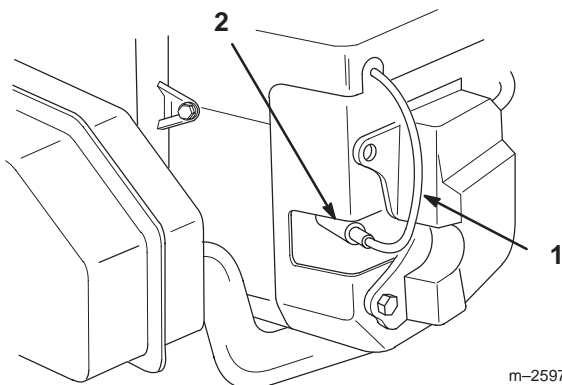

Figure 32
2. Pull the wire off of the spark plug (Fig. 32).
3. Push the wire onto the spark plug (Fig. 32).